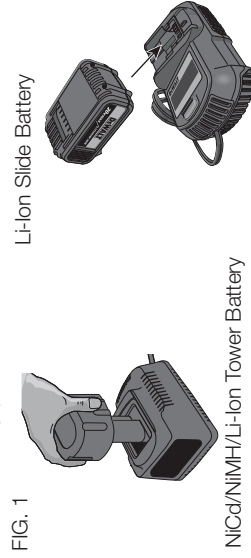

FIG. 1
Charging Procedure (Fig. 1)
2. Insert the battery pack into the correct charger port, as shown in Figure 1, making sure the pack is fully seated in the charger. The red (charging) light will blink continuously indicating that the charging process has started.